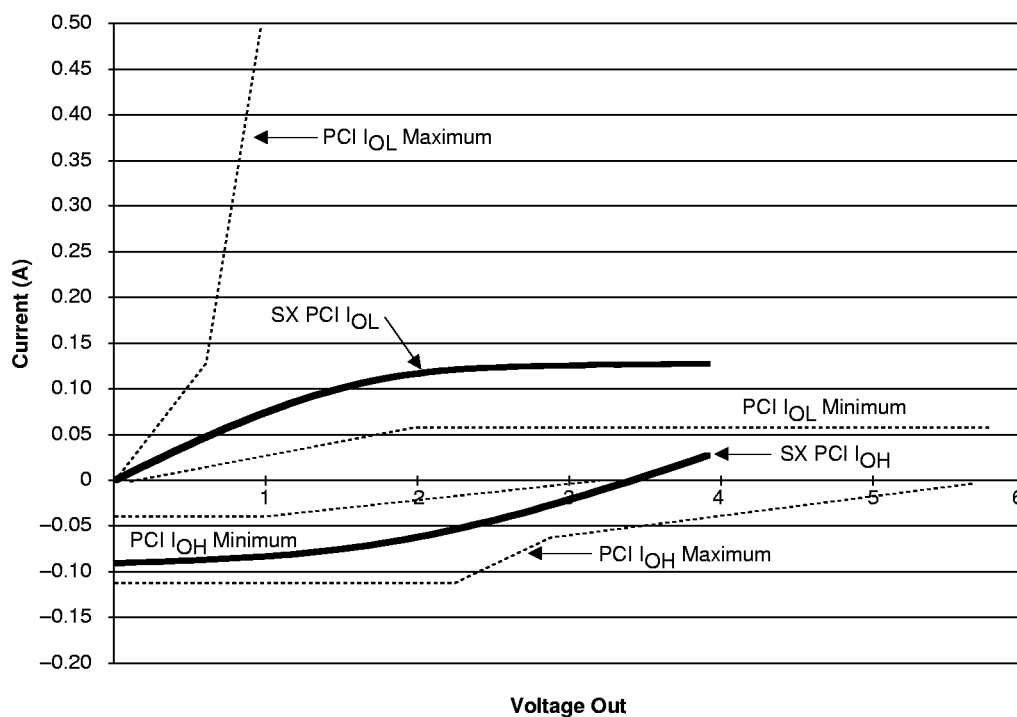

Figure 10 • 3.3VPCI Curve for SX-A Family
1. Refer to the V/I curves in Figure 10 on page 17. Switching current characteristics for REQ# and GNT# are permitted to be one half of that specified here; i.e., half size output drivers may be used on these signals. This specification does not apply to CLK and RST# which are system outputs. "Switching Current High" specification are not relevant to SERR#, INTA#, INTB#, INTC#, and INTD# which are open drain outputs.
2. Maximum current requirements must be met as drivers pull beyond the last step voltage. Equations defining these maximums (C and D) are provided with the respective diagrams in Figure 10 on page 17. The equation defined maxima should be met by design. In order to facilitate component testing, a maximum current test point is defined for each side of the output driver.
Figure 10 shows the 3.3VPCI VI curve and the minimum and maximum PCI drive characteristics of the SX-A family.